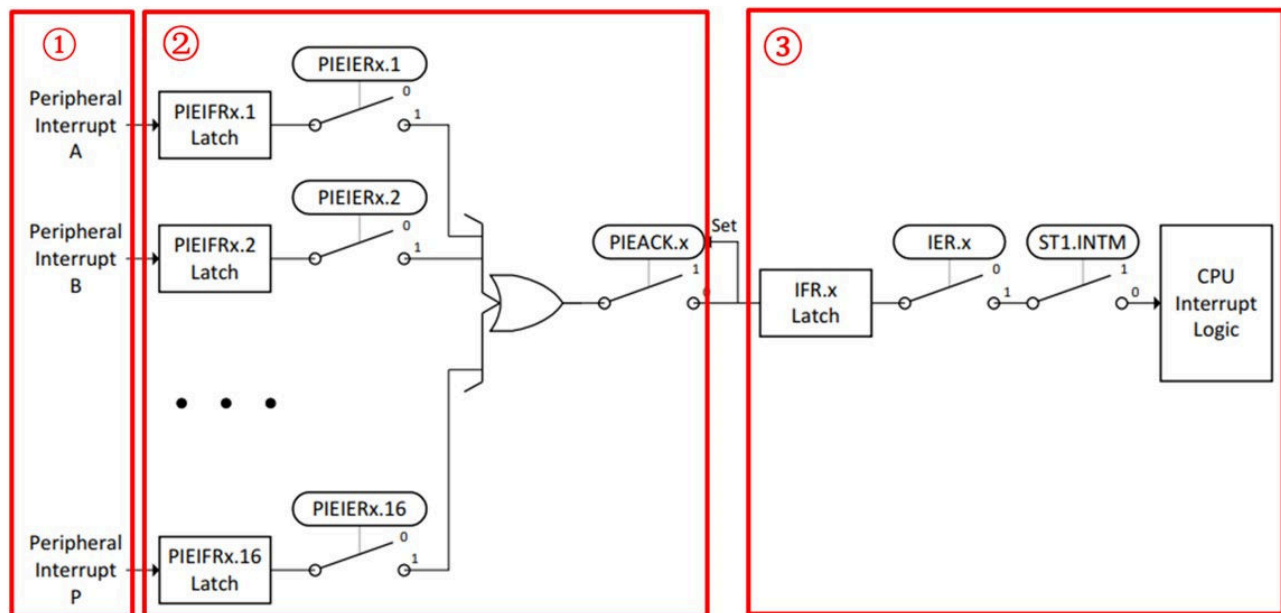

Figure 3. Interrupt Propagation Path
2. Approve the interrupt. The C28x must approve the interrupt request. If the interrupt is maskable, certain conditions must be met for the C28x to approve the interrupt request. For non-maskable hardware interrupts and for software interrupts, approval is immediate, as described in Figure 3.
Figure 3 shows how peripheral interrupts propagate to the CPU.